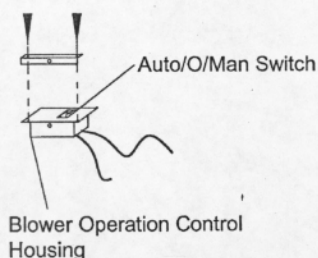

Figure2-Attaching Brackets to Speed Control Housing
3. Assemble the two black screws used on the bracket on the controlling housing of the blower (See Figure 2).